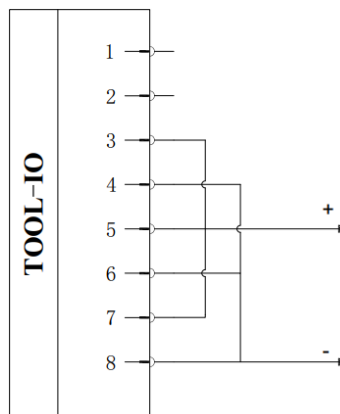

Figure 6-29 Three pin power mode
2. Wiring method: as shown in Figure 6-29, connect the power cable (5 gray) with T11/TO1/PWR1 cable (7 blue) and T13/TO3/PWR2 cable (3 green), and the grounding cable (8 red) with T10/TO0/GND1 cable (6 pink) and T12/TO2/GND2 cable (4 yellow).